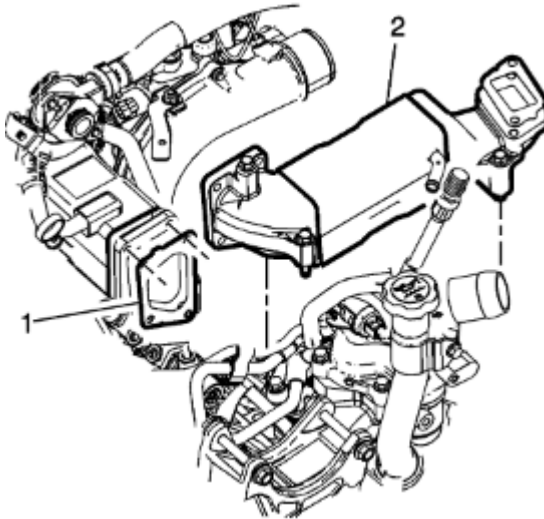

Fig. 135: Front EGR cooler installation
- a. Install the front EGR cooler (item 2 in figure 135) with a new gasket (item 1 in figure 135). Install the four bolts connecting the front EGR cooler to the rear EGR cooler installed in step 15. Torque the bolts to 18 ft-lb.